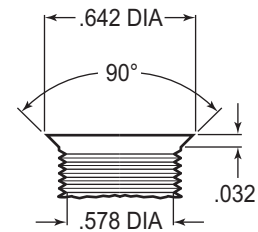

Figure 3. Drill and Tap Detail
- NOTE:** 1964-66 spindles may require the following modifications (reference Figure 1 and Figure 3): Top anchor pin hole (Z) must be drilled and tapped to the dimensions as outlined in Figure 3. Bottom rear steering arm bolt hole (Y) in the spindle and steering arm must be enlarged to .50" by drilling. A 1/2-20 backing nut (not supplied in kit) will need to be acquired to torque bracket / steering arm bolt (supplied in kit).
- Apply red *Loctite*® 271 to bolt threads (3 and 4, or 4A for disc spindle application) before assembly of the caliper mounting bracket (1). Mount bracket (1) to dust face plate of spindle using the bottom bolt (3) while positioning spacer (2) between bracket and spindle face, finger tighten only. Install the upper bolt (4, or 4A with spacer 2A positioned between bracket and top hole of spindle face), torque to 120 ft-lb. Torque bolts (3) to 77 ft-lb. **NOTE:** Be sure the heads of the bracket (1) insert nuts are facing outward toward the wheel. **NOTE:** Because of a tolerance variation among spindles, it may be necessary to install a shim washer (24 and/or 25) between the spacers (2 and/or 2A) and the bracket (1) in order to square the bracket to the rotor.
- Install wheel studs (5) into the hub (6). Torque to 77 ft-lb. **NOTE:** There are two five lug patterns in the hub (5 x 4.50 and 5 x 4.75). Make sure of the correct hole pattern for the correct wheel application before installing studs into hub.
- Pack the large inner bearing cone (7) with high temperature disc brake bearing grease (available from your local auto parts store) and install into the backside of the hub (6).
- Install the grease seal (8) by pressing into the backside of the hub (6).